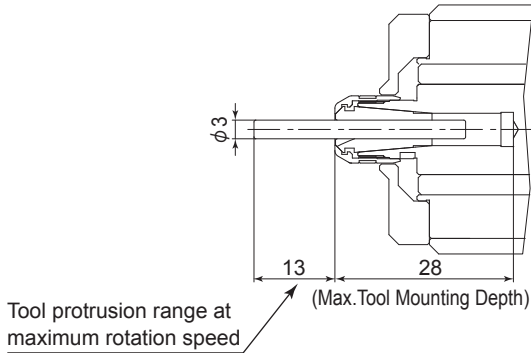

Fig. 24
- (1) The proper surface speed for general grindstones is 10 - 30m / s.
- (2) Do not exceed 13mm of overhang for mounted grindstones as shown in Fig. 24.
Use this Maximum Rotation Speed Table when exceeding the " Range of Tool Overhang " recommendations (Refer to Fig. 24).
"N" is the maximum rotation speed used in the formula for "Range of Tool Overhang " (Refer to Fig. 24) ($100,000\text{min}^{-1}$) (rpm)).